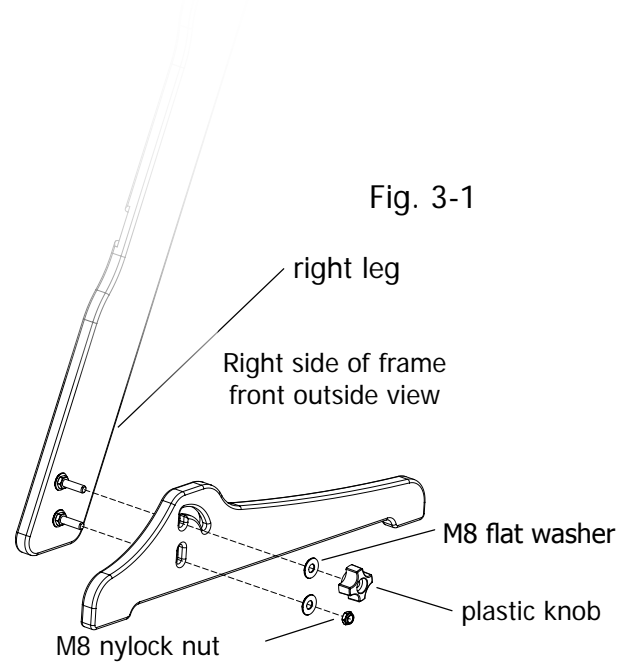

Fig. 3-1
Step 3-1: As shown in Fig. 3-1, and 3-2, place the carriage bolt ends through the holes in each foot.